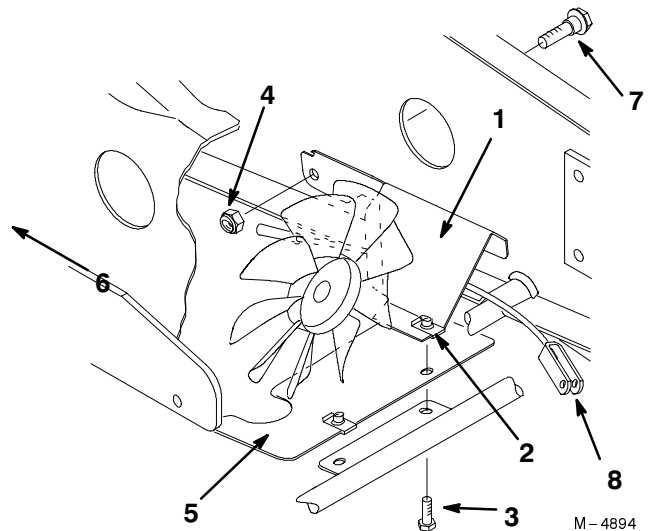

Figure 2
2. Remove the two bolts securing the plastic fan baffle (Fig. 2) and remove the baffle.
4. Install the clip nut over the hole in the bent tab of the cable guide (Fig. 2).
5. Remove the nut from the pivot bolt on the left hand attachment lift arm, leaving the bolt in place (Fig. 2).
7. Place the rear hole of the cable guide over the bolt securing the left hand attachment lift arm and replace the nut loosely (Fig. 2).
8. Install the plastic fan baffle with one of the previously removed bolts in the right hand side only, leaving the bolt loose (Fig. 2).